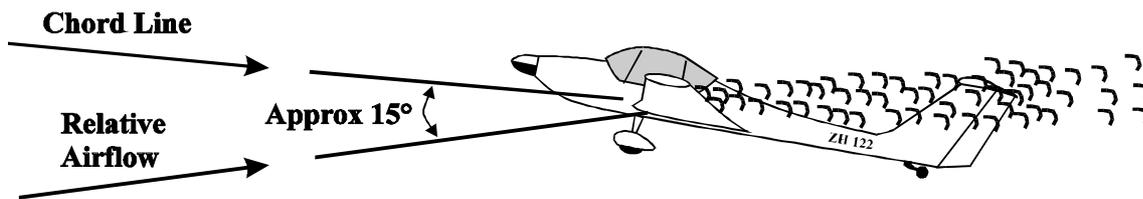

Fig 12. The stall.
2. **Considerations.** When the angle of attack of an aerofoil exceeds a critical angle (about  $15^\circ$  for the Vigilant wing) the airflow over the aerofoil will progressively become turbulent and break away. See Fig 12. This dramatically reduces the amount of lift generated until it is no longer enough to support the aircraft and a large and rapid loss of height can occur. You will learn to recognise the symptoms of a stall and the correct recovery technique. Finally, you will learn to recognise the signs of an approaching stall, so that you can prevent it from happening.